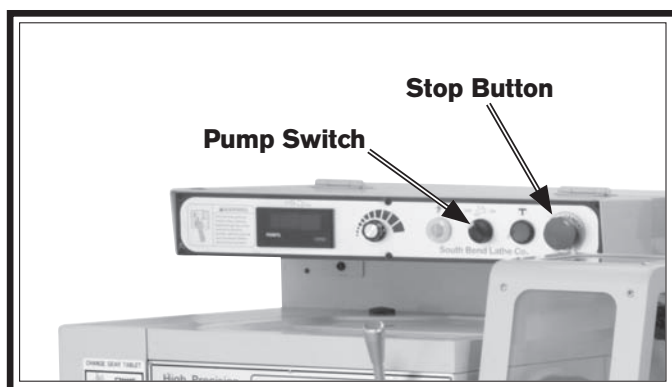
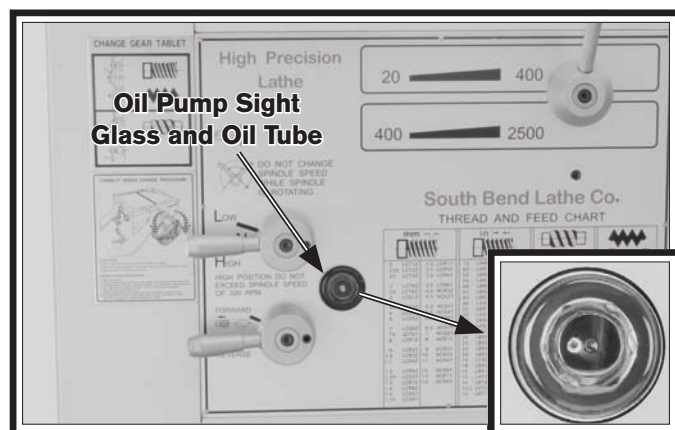

Figure 17. Control panel-test run.
Figure 24. Oil pump sight glass and oil tube.
5. Turn the pump switch (**Figure 17**) to the **OFF** position, and point the fluid nozzle into the chip drawer.
13. Rotate the stop button (**Figure 17 on Page 18**) clockwise until it pops out. The pump will turn **ON**. Observe the oil pump tube sight glass (**Figure 24**). Verify that you see oil flowing out of the tube and against the sight glass.